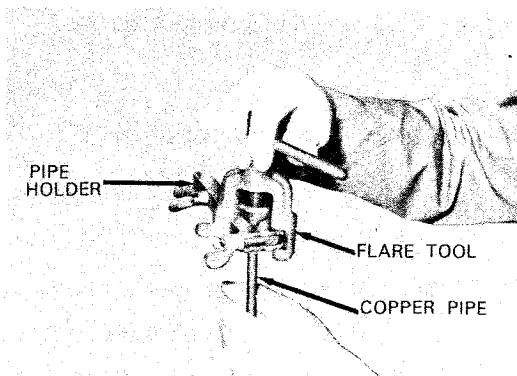

Fig. 44
- C) Flare the tip of pipe with the flare tool. See Fig. 44.